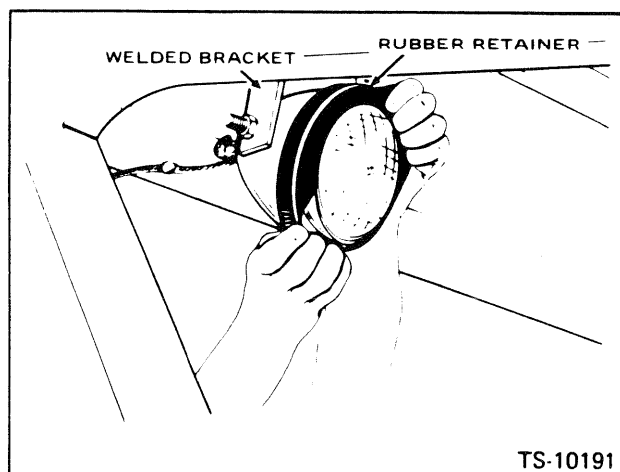

Fig. 14-1 Lamp Replacement
If it is necessary to replace the floodlamps, depress the lamp and spread the lip of the rubber retainer outward, forcing the lamp out as shown in Fig. 14-1 and disconnect the terminals. Reconnect the terminal on the lamp and reinstall the retainer.
- a. Attach one end of one jumper cable to the negative terminal of the booster battery (identified by black colour "-", "N", or "NEG" on the battery case, post, or clamp) as shown in Fig. 14-1. Attach the other end of the same cable to the negative terminal of the discharged battery.